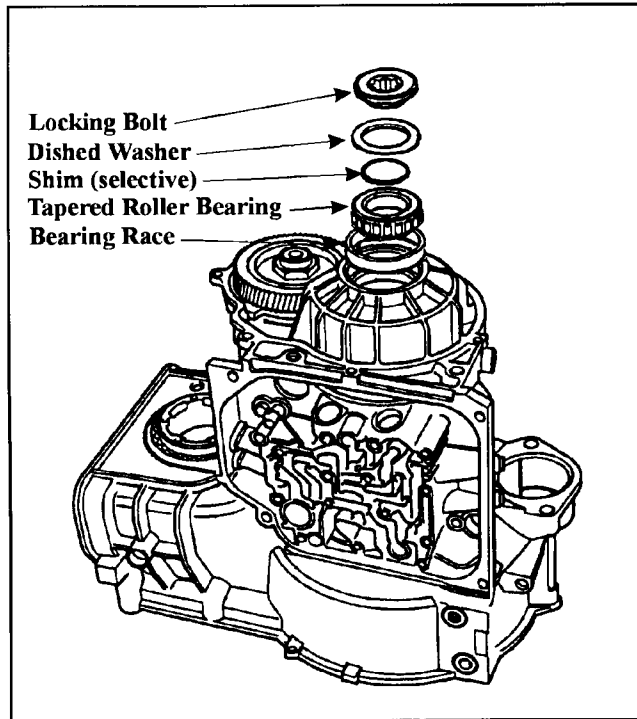

Figure 90
1. Move the shift linkage to lock the parking gear and remove the 22mm locking bolt from the back of the transfer housing (See Figure 90).